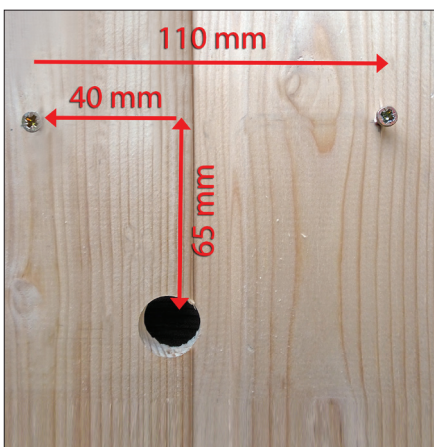

Fig. 2
- II. From the drilled hole measure 65 mm to the top, then 40 mm to the left. This is the position of the left mounting screw (Fig. 2).
- III. Fix the right mounting screw at a horizontal distance of 110 mm (Fig. 2).